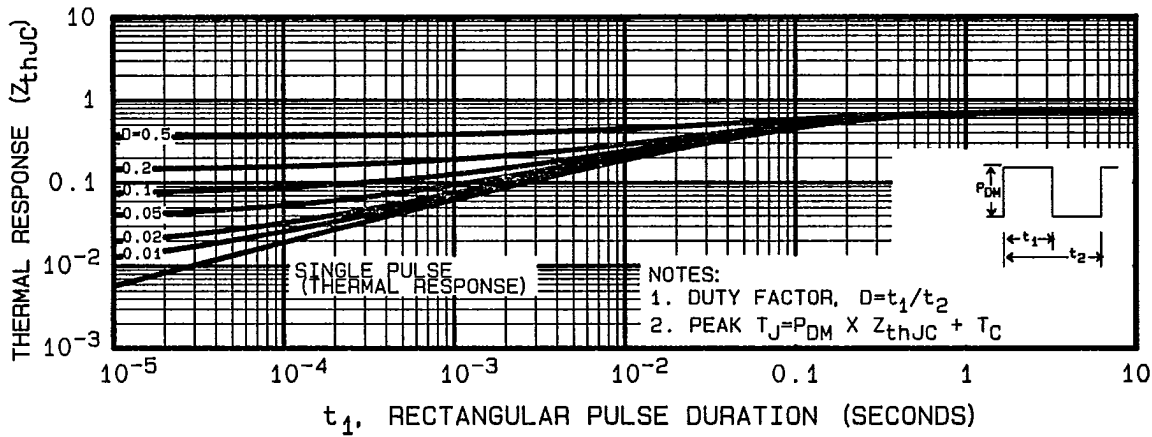

Fig. 5 — Maximum Effective Transient Thermal Impedance, Junction-to-Case Vs. Pulse Duration
① Repetitive Rating; Pulse width limited by maximum junction temperature (see figure 5) Refer to current HEXFET reliability report
③ $I_{SD} \leq 33\text{A}, di/dt \leq 190\text{A}/\mu\text{s}, V_{DD} \leq BV_{DSS}, T_J \leq 150^\circ\text{C}$